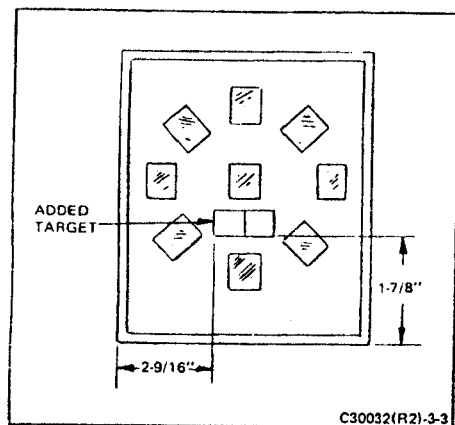

FIGURE 3-3 LOCATION OF NEW COLLIMATOR TARGET
**NOTE:** If an early vintage collimator is being used, a new adhesive-backed label must be added to the target in the position shown in Figure 3-3.